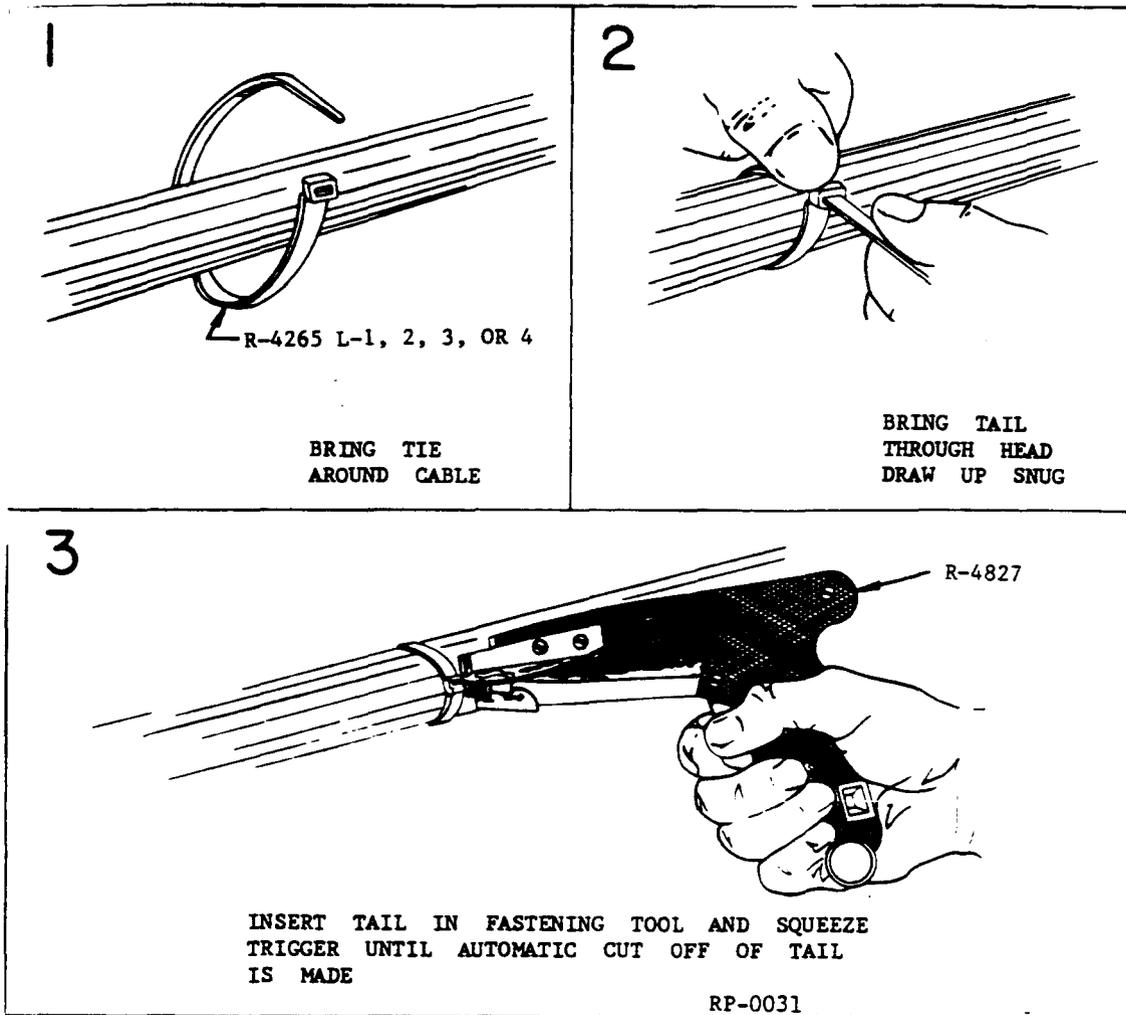

FIG. 1 INSTALLING NYLON CABLE TIES
3.15 To install the R-4265 Cable Tie, first loop the tie around the form with the serrated or stripped side facing inward, place the end of the tie through the head and pull up snug by hand at the desired location. Position the head in a convenient location for the final fastening and cutting off process with the R-4827 Variable Setting Tool for Miniature and Intermediate Ties or the R-4266 (MFR DISC) Tool for Intermediate Ties only. See illustrated procedure in FIG. 1.